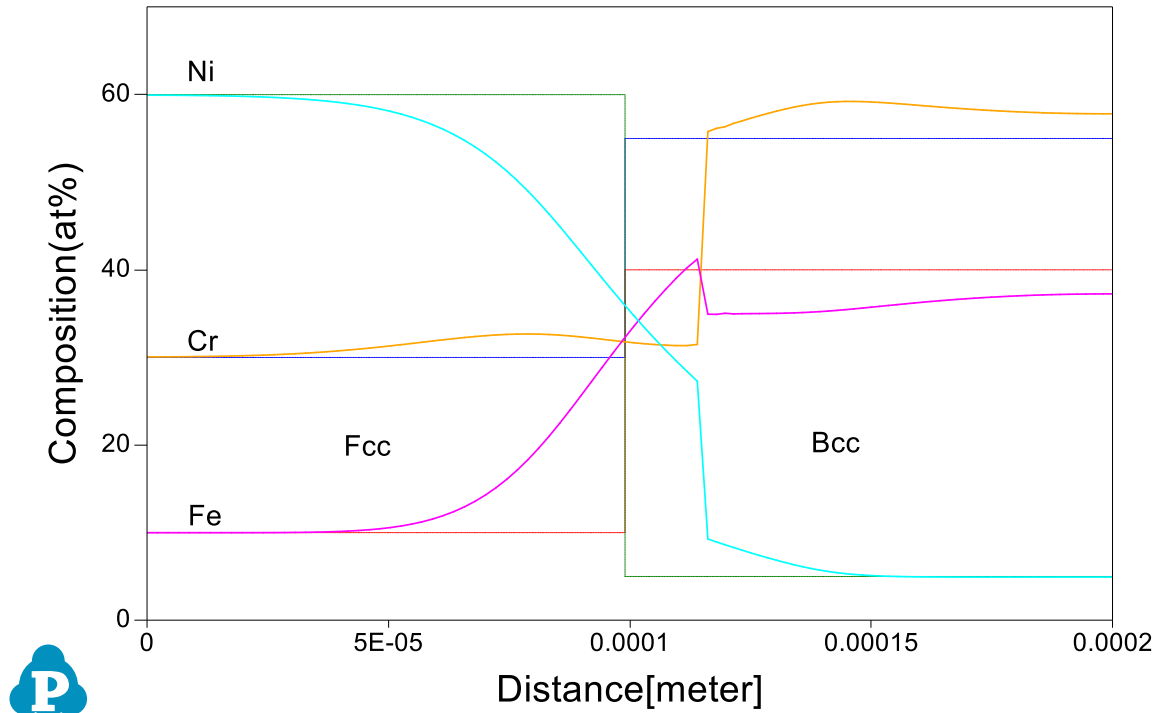

Figure 4.3.2: Calculated composition profiles after diffusion at 1000°C for 200 hours
- The calculated plot is shown in Figure 4.3.2. Add text and change graph appearance following the procedure in Pandat User's Guide 2.3.1;